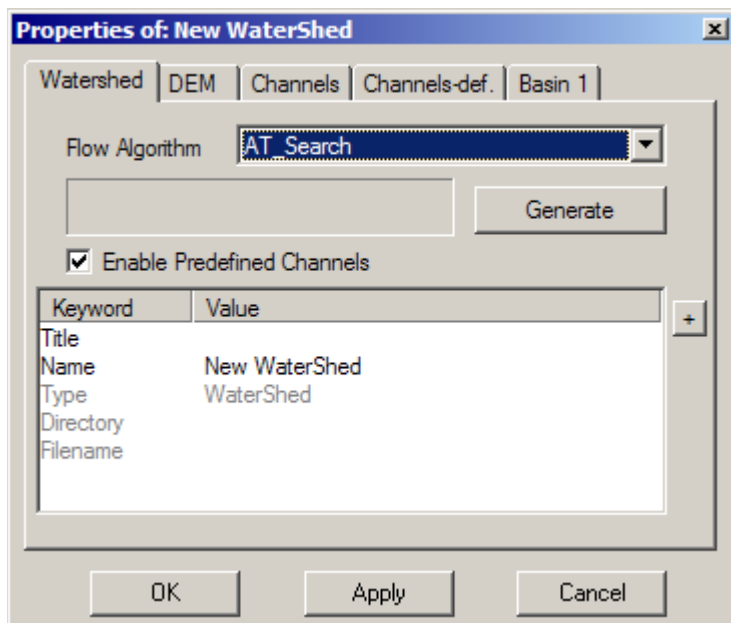

Figure 2.11: The Enable Predefined Channels box makes the Channels-def. tab available
- Click the **Enable Predefined Channels** box on the Watershed Properties dialog. See Figure 2.11 on p. 126 for details.